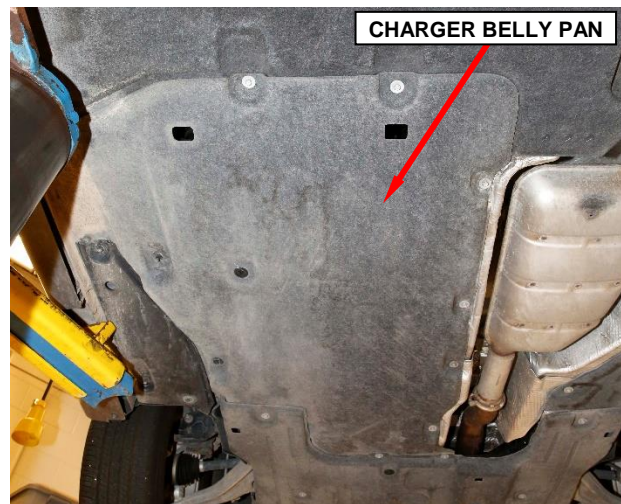

Figure 15 – Charger Belly Pan
3. Remove the fasteners then remove the charger belly pan (Figure 15).